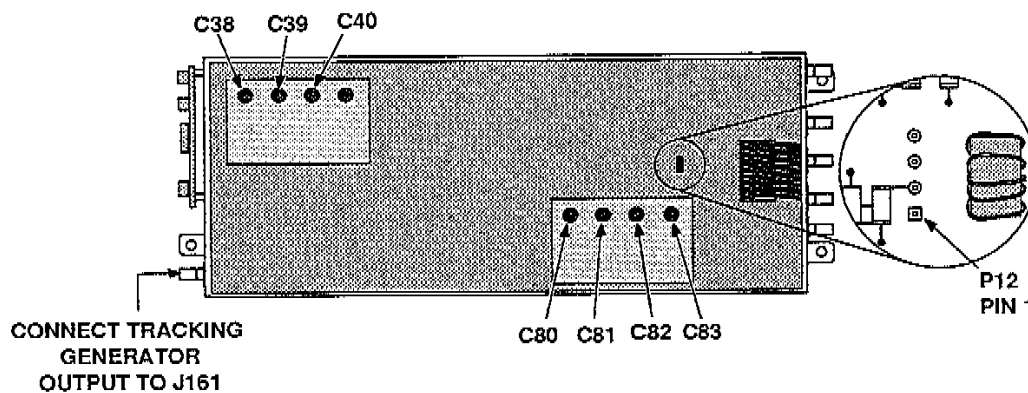

Figure 3-18. VR Module internal adjustments and test points.
- Move the tracking generator output from J164 (MIXER OUT) to J161 (25 MHz RF). See Figure 3-18.
1. Remove the jumper from pins 2 and 3 of P12. See Figure 3-18.
9. Remove the cable to P12 and re-connect the jumper to pins 2 and 3 (Figure 3-18).